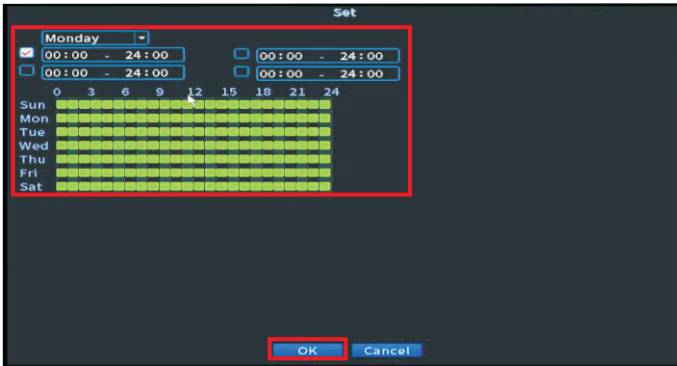

Figure 14. Set Vehicle detection period. Click OK button.
21. Select and set the day and time for the preferred the Vehicle Detection to be activated and click "OK". See Figure 14.